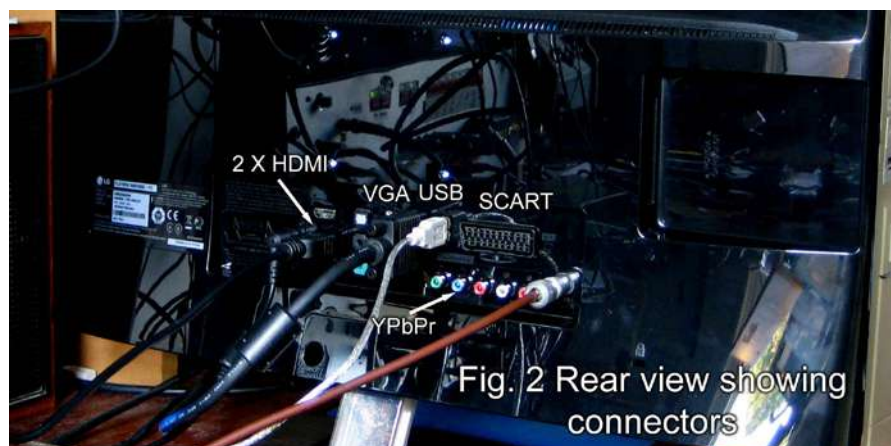

Fig. 2 Rear view showing connectors
3. It has 2 x HDMI ports, a VGA port, a YPbPr set of RCA connectors, a USB port and a SCART port. It also has some audio inputs.[Fig.2]